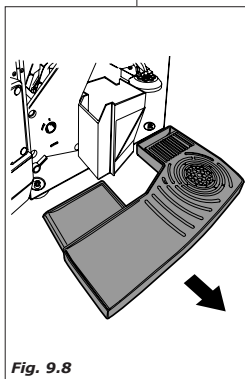

Fig. 9.8
- substitute the coffee spent grounds container (coffee in beans versions) (Fig. 9.8).